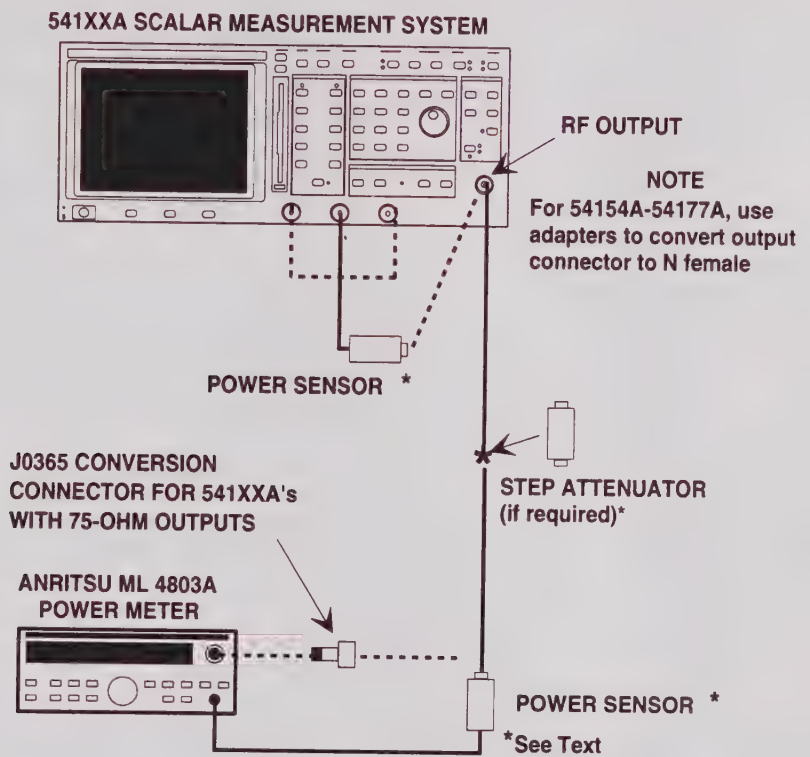

Figure 5-5. *Signal Channel Verification, RF Test Setup*
- For units equipped with a 75 Ω signal source output, connect the MA4603A power sensor (in conjunction with the J0365 Conversion Connector) to the power meter (see Figure 5-5).
Step 2. Set up the equipment as shown in Figure 5-5, and turn the equipment on.